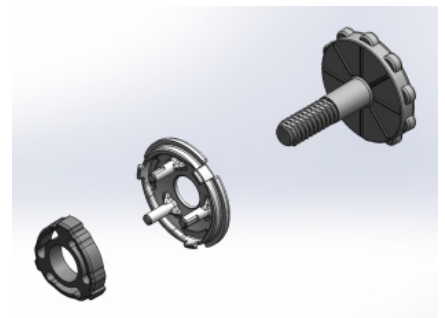

Figure 2
9. Snap new Cam Covers into place over the Outer Door Hinges. Note: The Cam Cover has three (3) pins that fit into the three (3) holes of the Outer Door Hinges. Check the alignment of pins and holes before snapping into place. Premature damage could occur to the parts if not properly installed. See Figure 2.